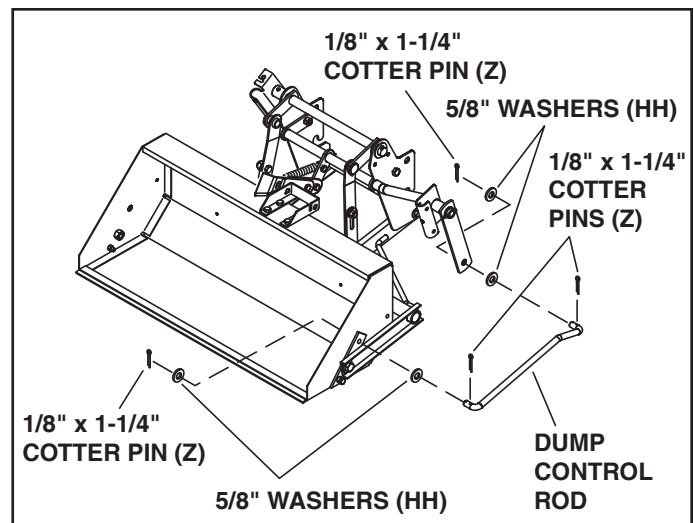

FIGURE 8
STEP 9: INSTALL DUMP CONTROL ROD (SEE FIGURE 8)
- Install a 1/8" x 1-1/4" cotter pin (Z) into the inside hole in each end of the dump control rod. Spread the ends of the cotter pins and wrap around the rod. Install a 5/8" washer (HH) onto each end of the control rod.
- Install the dump control rod to the dump pivot bracket and bucket. Fasten using two 5/8" washers (HH) and 1/8" x 1-1/4" cotter pins (Z). Spread the ends of the cotter pins and wrap around the rod.